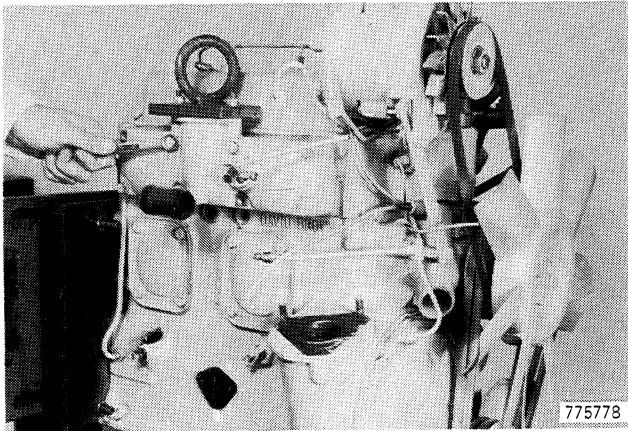

Figure 32
7. Remove the cap screws from the intake manifold, Figure 32.